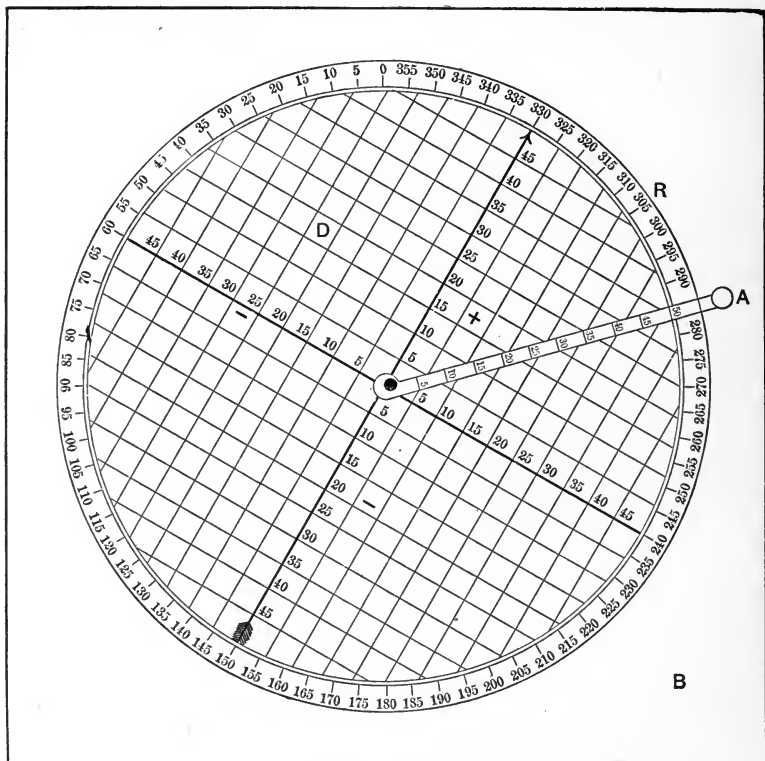

FIG. 74.
Q. How are the components of the wind in the direction of the line of fire and in a lateral direction determined? (See Fig. 74.)